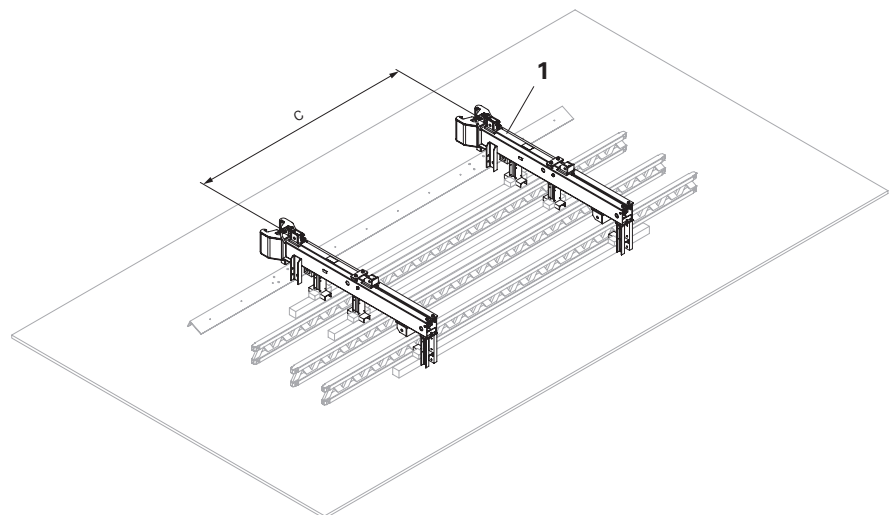

Fig. B4.05
2. Attach the Crossbeam ACS (**1**) to the crane and lower it to the assembly position using the angle (**2**). (Fig. B4.05)